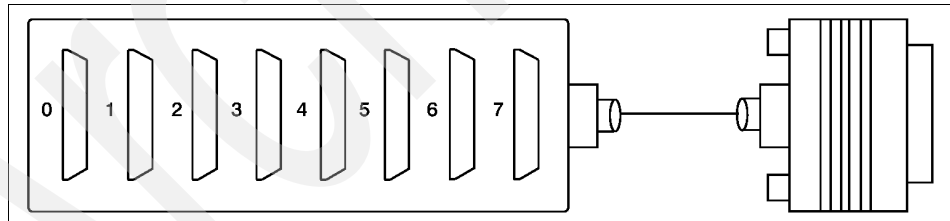

Figure 1-12 8-port fanout box with a connector cable
- ▶ A cable with a breakout box that has eight DB-25 connectors (see Figure 1-12)